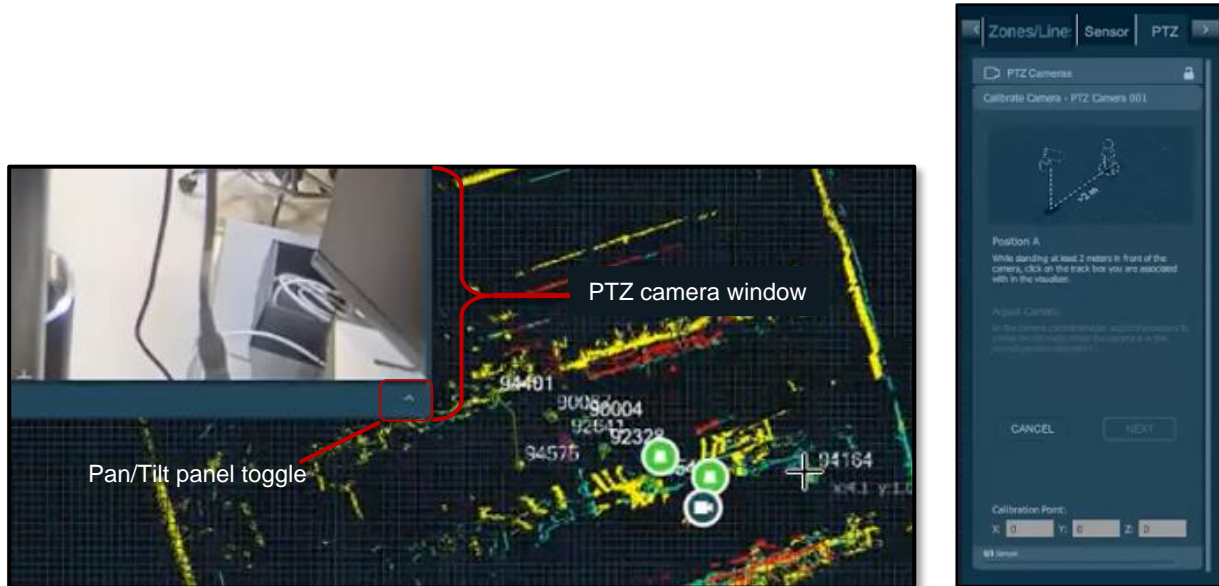

Figure 72. PTZ Camera Calibration: Position A
- b. In the Visualizer, place the cross-hair (+) on an object with a track ID and click. See Figure 72. PTZ Camera Calibration: Position A.